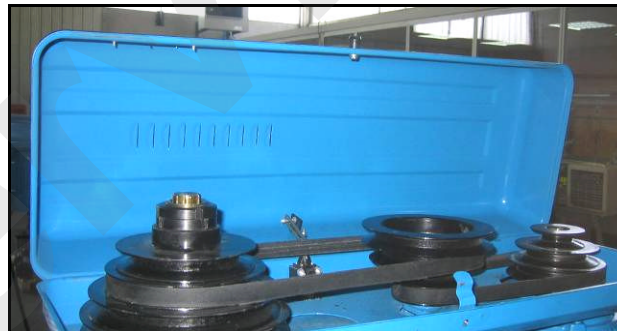

Figure 7 – Opening the shield.
2. Lift the top shield to be able to gain access to the belts and pulleys (figure 7).